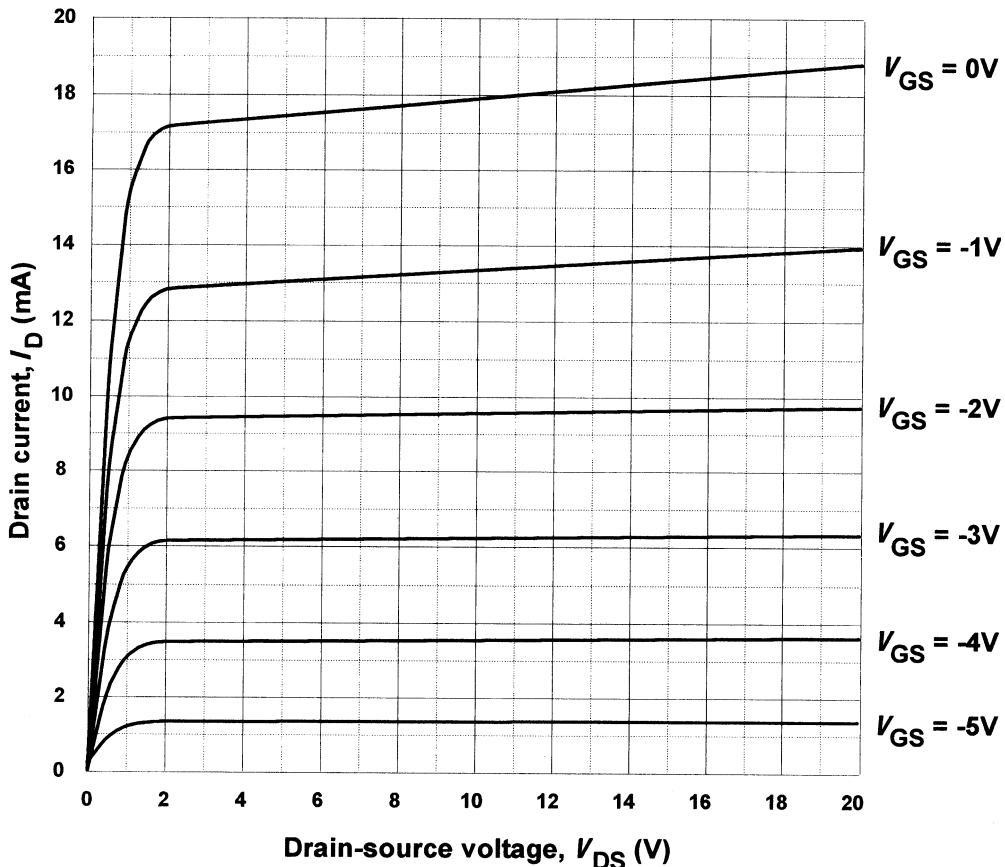

Figure 7.46
- 7.9 The output characteristics of a field effect transistor are shown in Fig. 7.46. If this FET is used in an amplifier circuit operating from an 18 V supply with a gate-source bias voltage of -3 V and a load resistor of 900Ω , determine the quiescent values of drain-source voltage and drain current. Also determine the peak-peak output voltage when an input voltage of 2 V pk-pk is applied. Also determine the voltage gain of the stage.